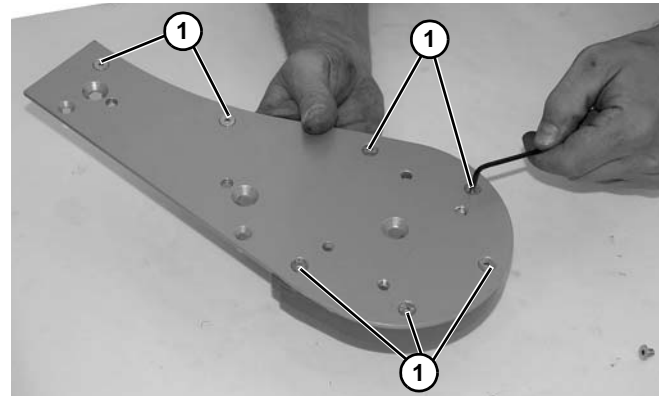

Figure 136
1. Remove seven (7) socket head screws (**Figure 136, item 1**) from idler head plate assembly.